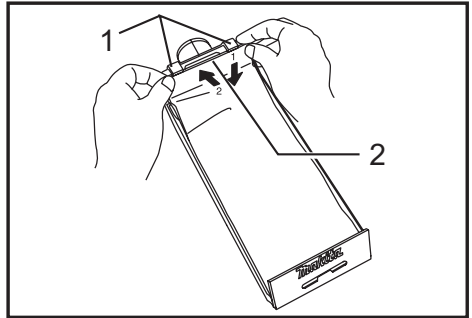

Fig.7
► **Fig.7:** 1. Claws 2. Upper part